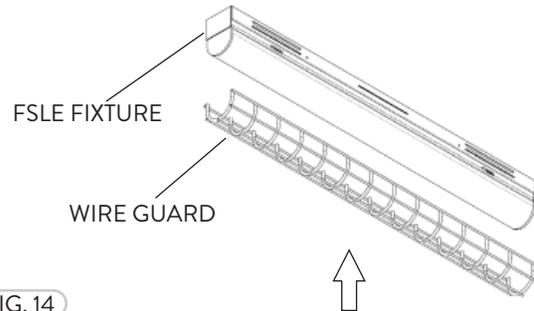

FIG. 14
- 1 The Wire Guards have various sizes for the corresponding FSLE fixture chosen (Fig. 14).